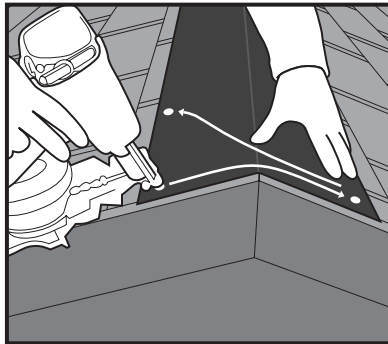

Fig. 3
- 3) Roll out the vent along the ridge, using the chalk lines for alignment. Remove any slack from the vent and nail the vent every 6 inches nailing from one side of the vent than the other. See Figure 3.